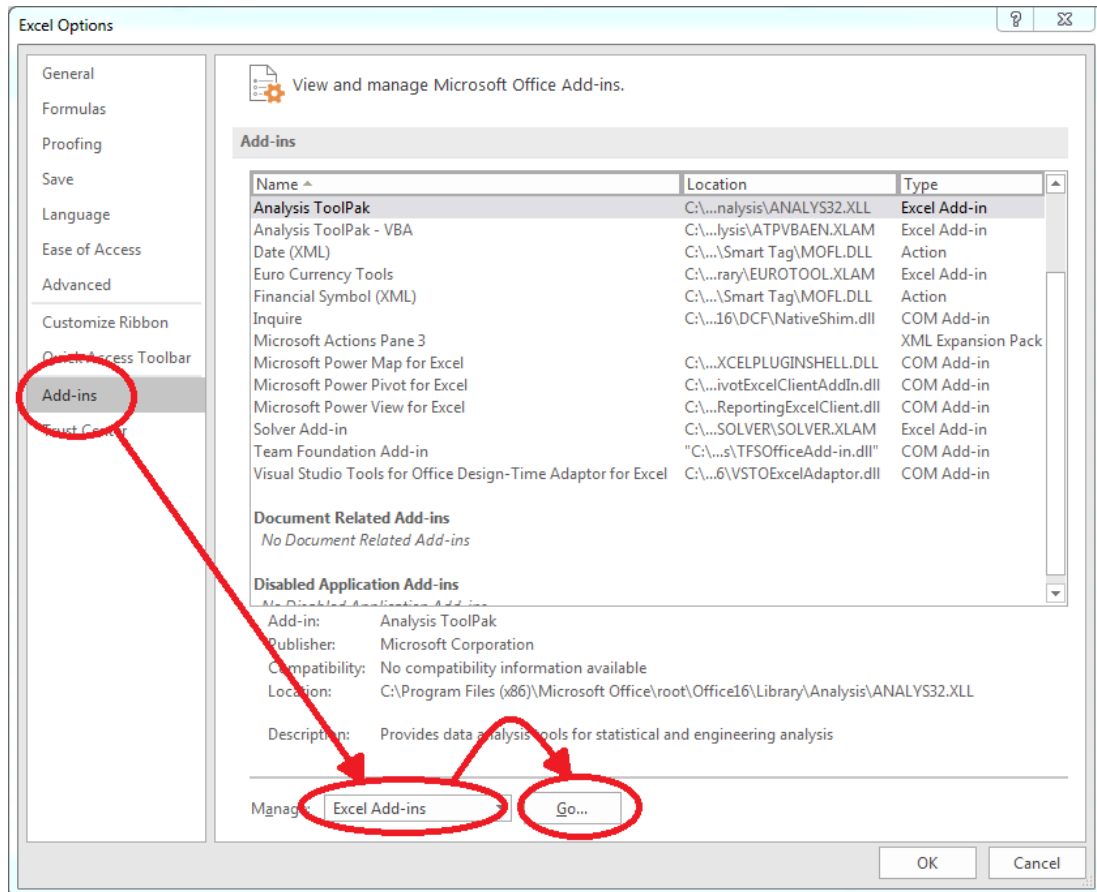

Figure 2.3: Dialog window "Excel Options"
- Click on "Add-Ins" in the next menu (Fig. 2.3)